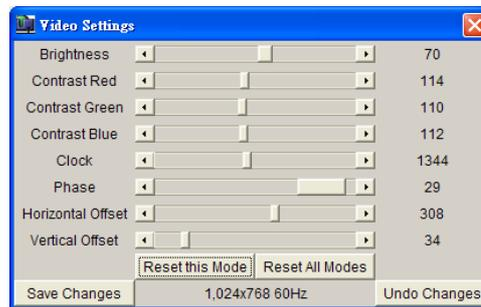

Figure 10-8 Video Settings
- Video Settings: Here you can give specified detailed settings for the video. Please refer to Figure 10-8.